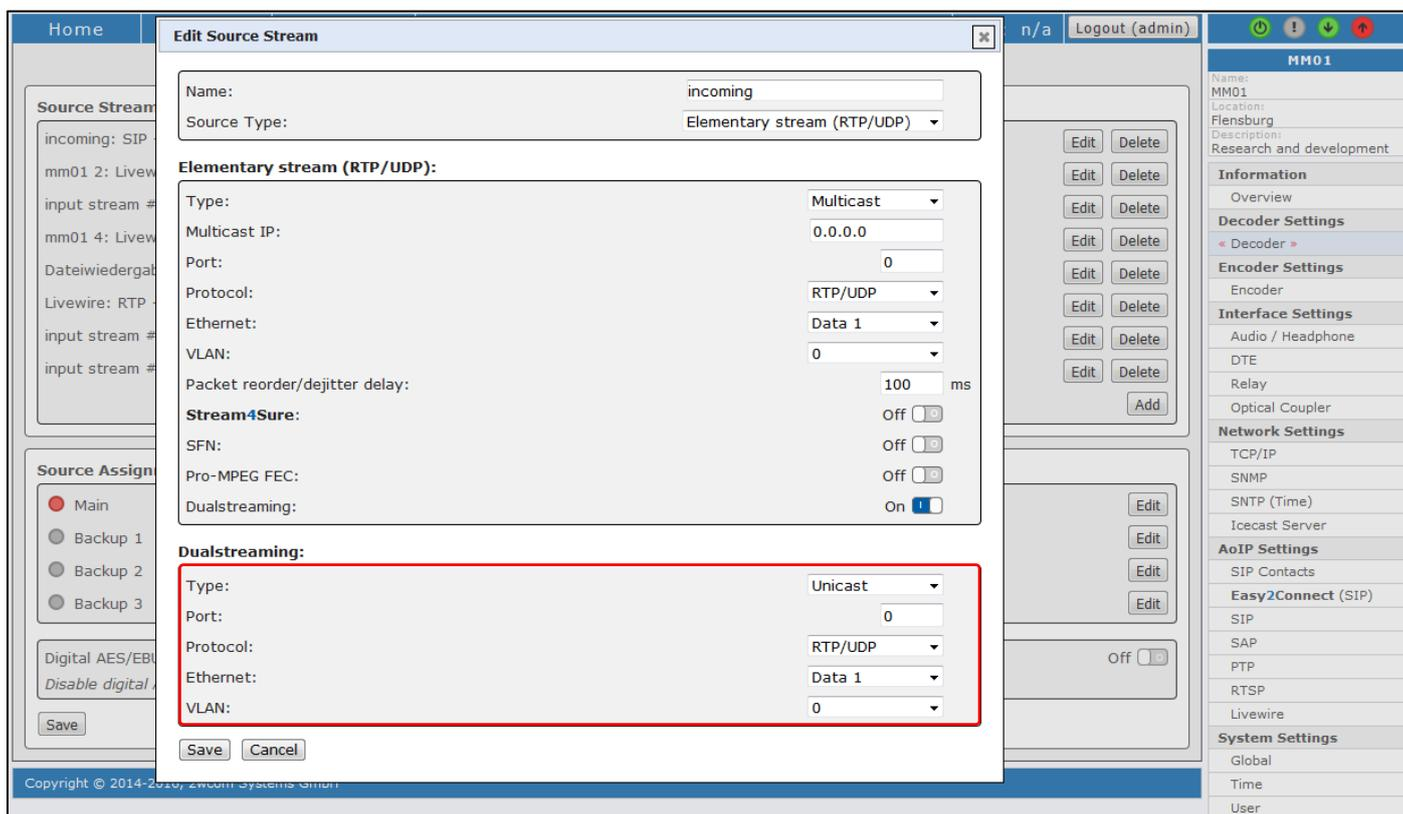

Figure 41: Dualstreaming settings for Decoder
4. Activate Dualstreaming by selecting "ON" in the virtual switch "Dualstreaming" in the last field. The menu will be expanded to the additional configuration (see Figure 41).